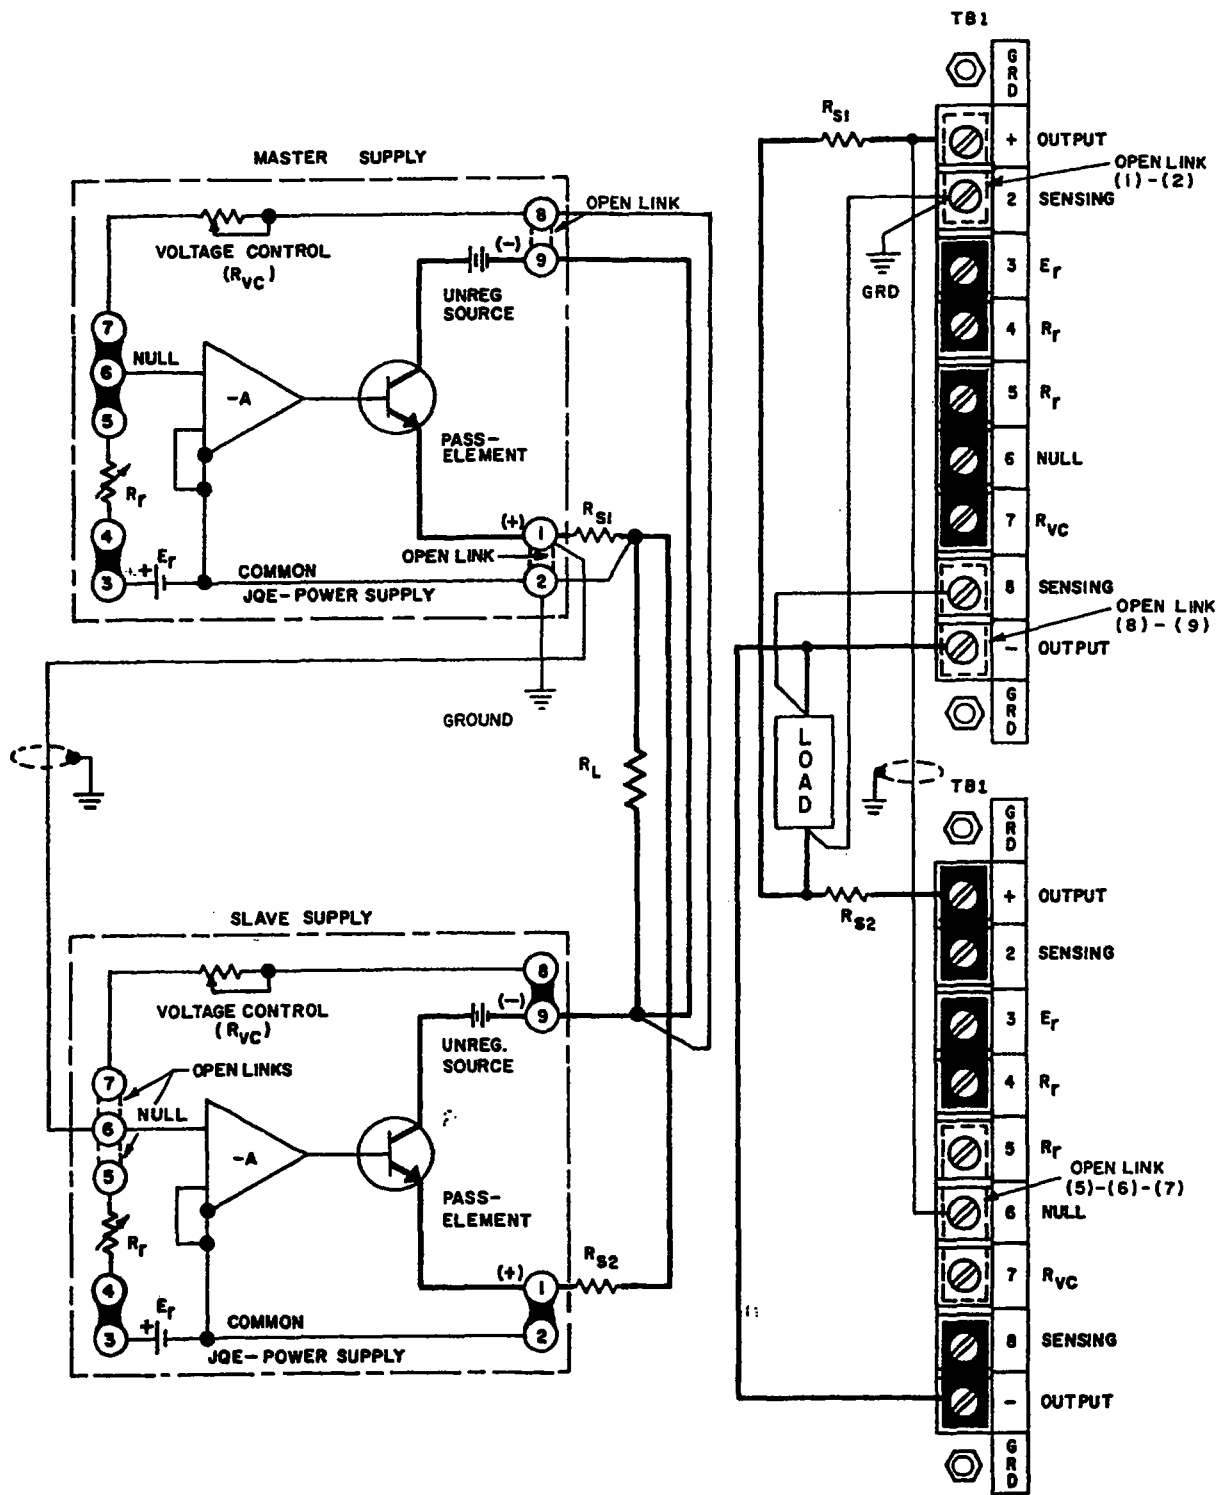

FIG. 3-15 MASTER-SLAVE PARALLEL CONNECTION OF JOE POWER SUPPLIES
**3-44 MASTER-SLAVE PARALLEL OPERATION:** Kepco Power Supplies may be paralleled if the output current from a single supply is not sufficient for the application at hand. With the parallel connection shown in FIG. 3-15, the total output current of the parallel supplies may be controlled from a single "Master" supply. To operate the parallel supplies in the "Master-Slave" connection, sensing resistors of equal value must be selected ( $R_{s1}$ ,  $R_{s2}$  in FIG. 3-15) such that the voltage drop across them is about 0.1 to 0.25 volts at the output current of interest. The *sum* of the voltage drops across the load wire with the sensing resistors in series should *never exceed 0.5 volts* at the maximum desired operating current. If sensing resistors of the proper value are not available, the resistance of the load wires may be sufficient to establish the necessary voltage drops. In this case, the load wires should be trimmed such that *equal voltage drops* are established in the load wire from the "Master" and that from the "Slave" supply. Load wires should in general be of as heavy a wire gauge as practicable. Twisting of the load wires, as well as of the error sensing leads from the "Master" supply (although *not* shown in FIG. 3-15) is recommended.
- b) Connect supplies as shown in FIG. 3-15, keeping load and error sensing leads as short as possible. Use shielded wire for the connection from terminal (2) of the "Master" to terminal (6) of the "Slave" unit.